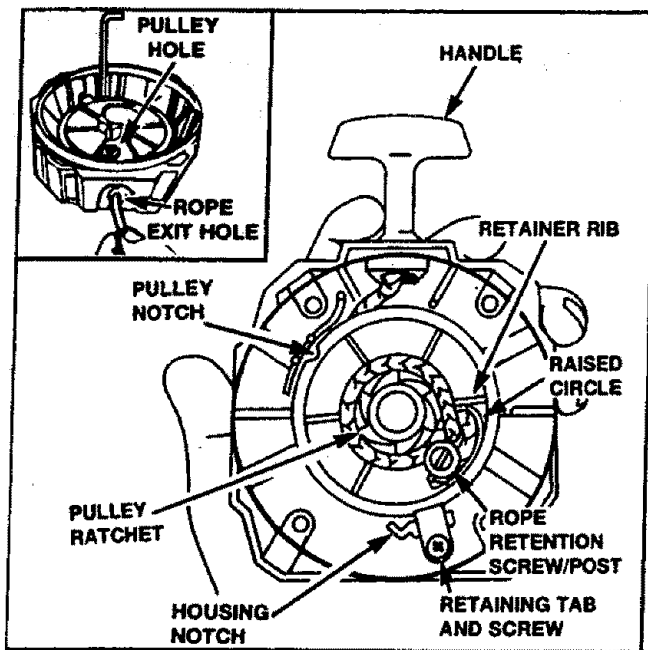

Figure 33
- Insert the other end of the rope through the rope exit hole, into the inside of the pulley housing, into the pulley, and up through the pulley hole. (See inset Figure 33).